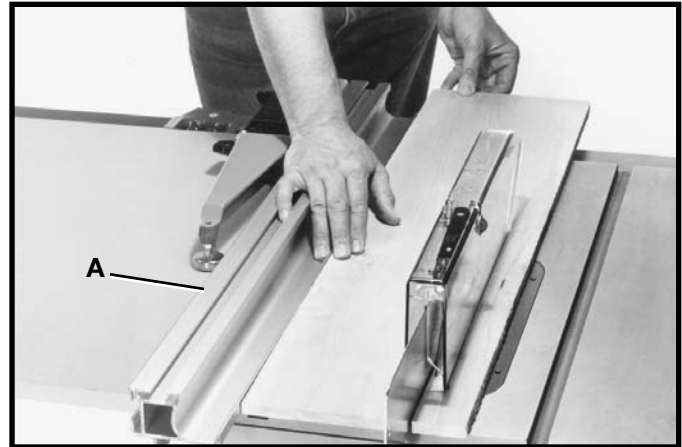

Fig. 125
Ripping is cutting lengthwise through a board, (Fig. 125). The rip fence (A) is used to position and guide the work. One edge of the work rides against the rip fence while the flat side of the board rests on the table. Since the work is pushed along the fence, it must have a straight edge and make solid contact with the table. The saw blade guard must be used. On Delta saws, the guard has anti-kickback fingers to prevent kickback and a splitter to prevent the wood kerf from closing and binding the blade.
1. Never stand in the line of the saw cut when ripping. Hold the work with both hands and push it along the fence and into the saw blade (Fig. 125). The work can then be fed through the saw blade with one or two hands. After the work is beyond the saw blade and anti-kickback fingers, the hand is removed from the work. When this is done the work will either stay on the table, tilt up slightly and be caught by the end of the rear guard, or slide off the table to the floor. Alternately, the feed can continue to the end of the table, after which the work is lifted and brought along the outside edge of the fence. The cut-off stock remains on the table and is not touched until the saw blade has stopped, unless it is a large piece allowing safe removal. When ripping boards longer than three feet, use a work support at the rear of the saw to keep the workpiece from falling off the saw table.